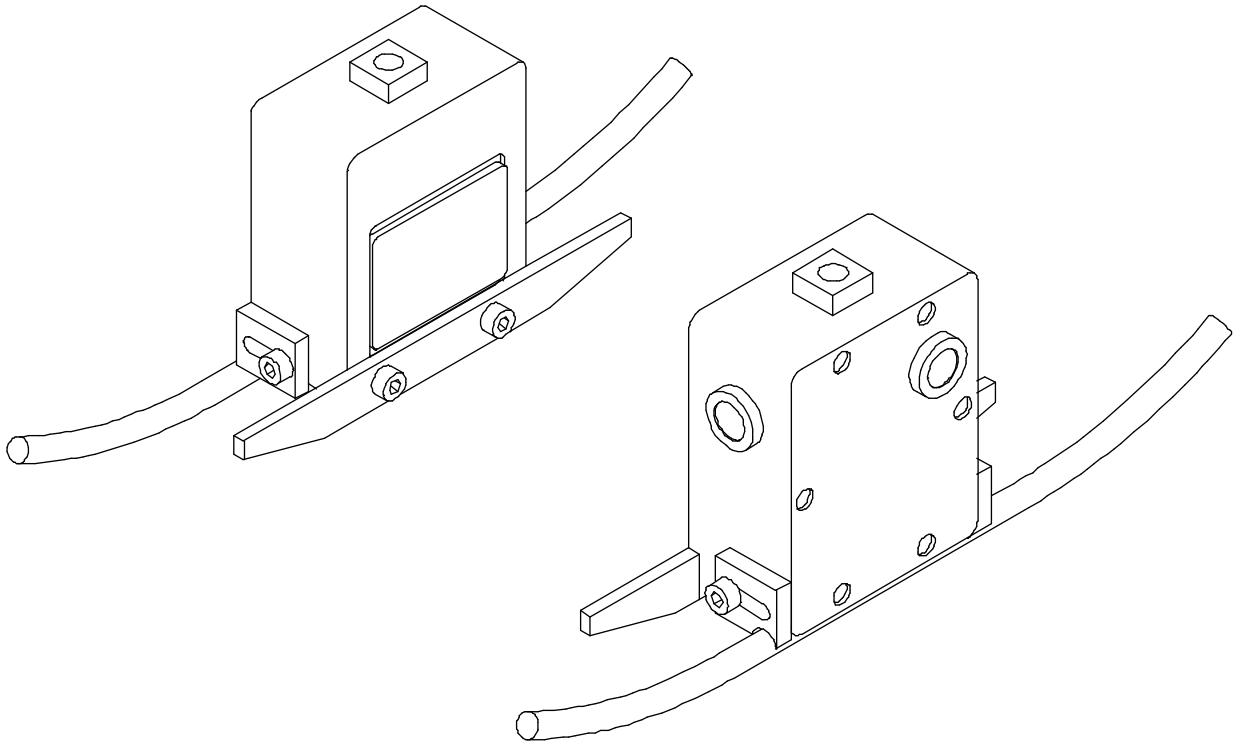
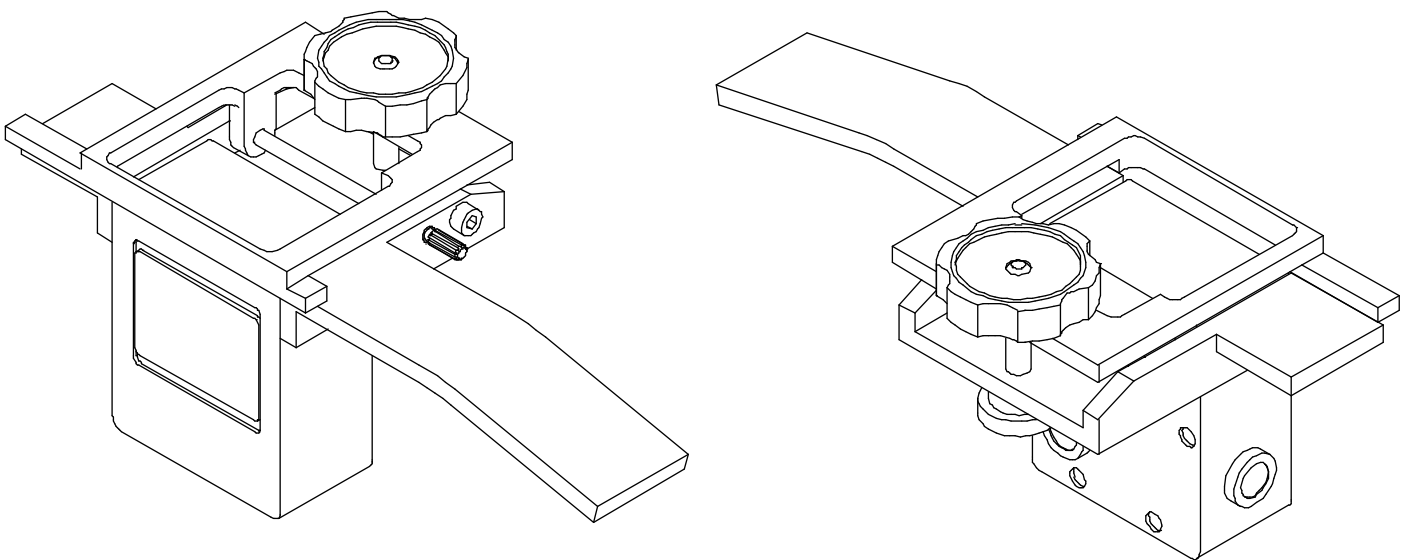

Figure 5-32. MW-101 Microwave Sensor (Top-Down Gluing)
Figure 5-33. MW-101 Microwave Sensor (Bottom-Up Gluing)
The MW-101 can be used for either top-down or bottom-up gluing (Figure 5-32 and Figure 5-33).
- 2d. Tighten screw (3).
- 2f. Tighten screw (1).
4. Connect other end of cable to MCP-25/MS control as shown in Figure 5-33.